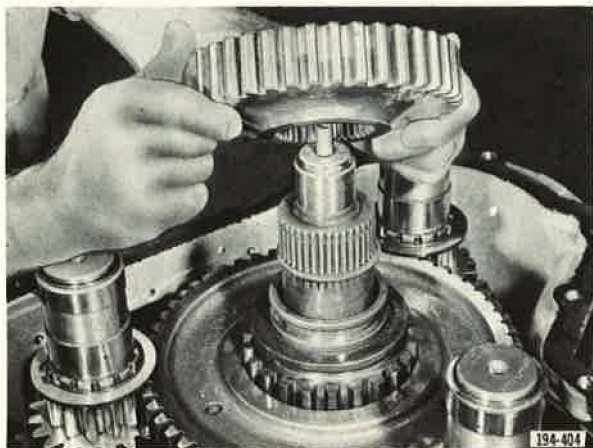

Figure 55. Installing Lo-Range Main Drive Gear
17. Install Lo-range main drive gear. See Figure 55.